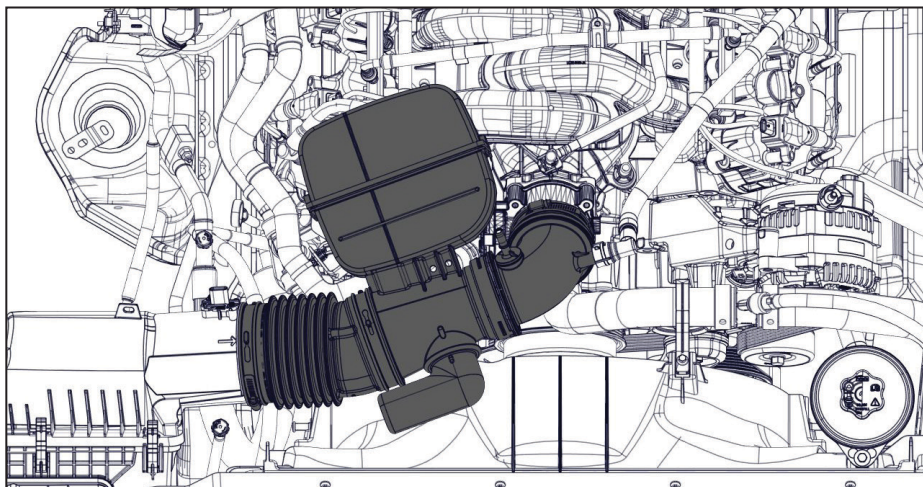

Figure 2 — Remove the air intake assembly
- ☐ Remove the air intake tube and resonator assembly (Figure 2).